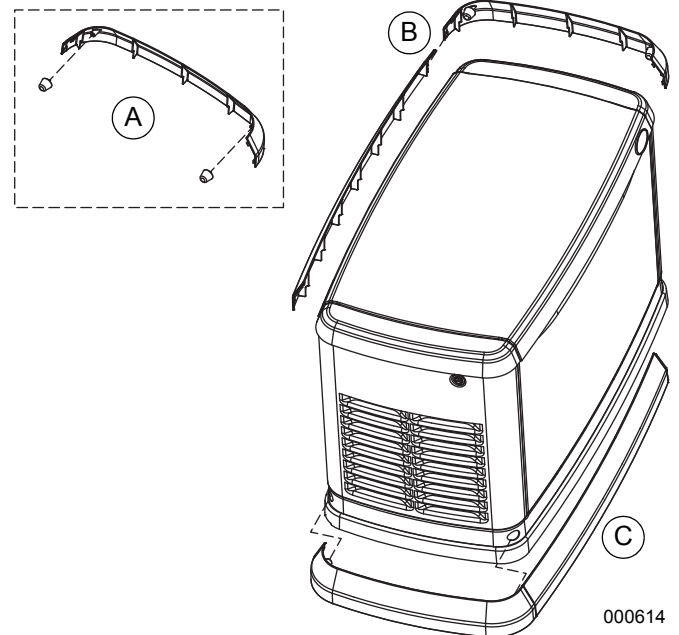

Figure 4-3. Fascia Installation
2. See Figure 4-3. Remove the mounts from the bag and screw them into threaded holes located inside the end pieces of the fascia (two each) opposite one another (A).